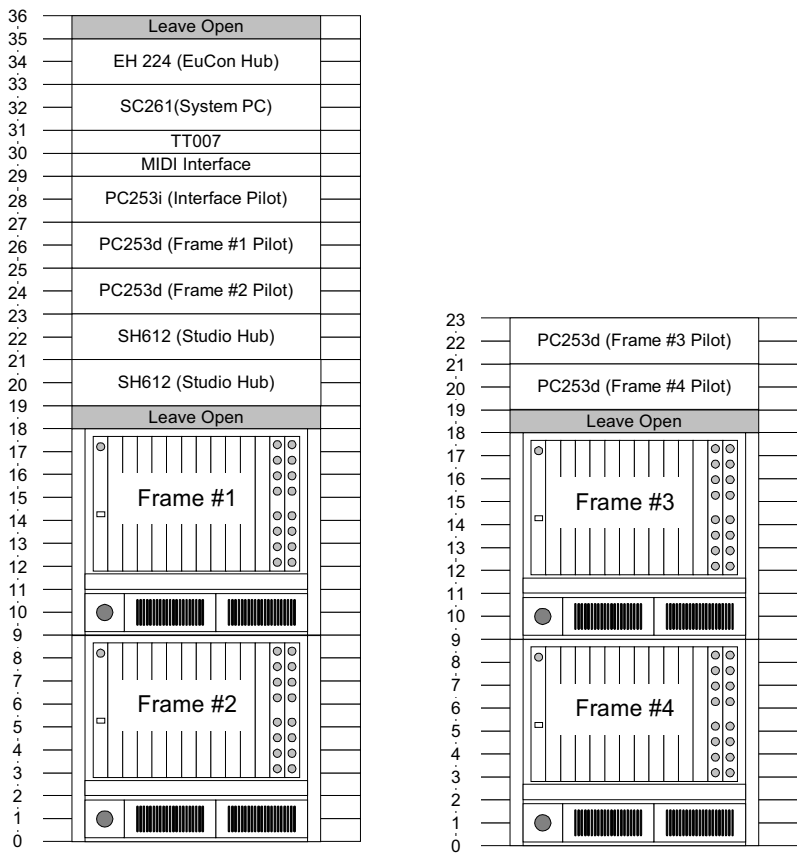
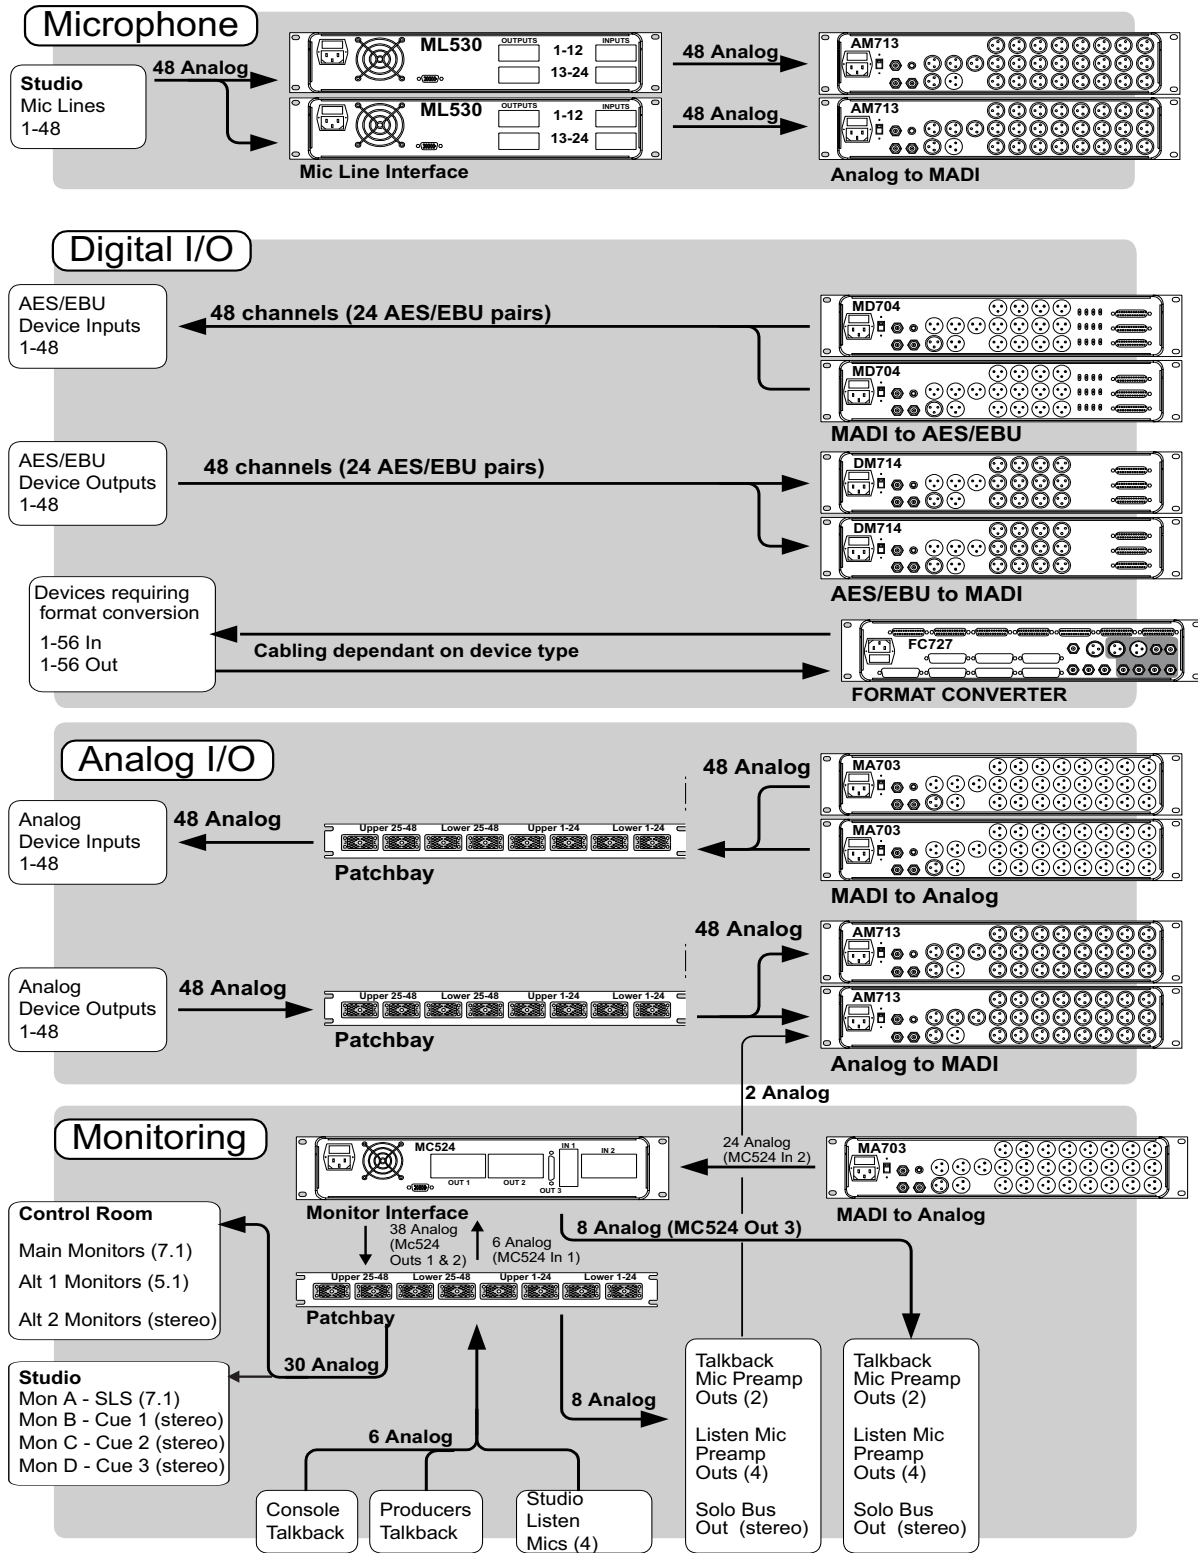

Figure 2-8 Four-frame System
Figure 2-9 Audio Hookup
MADI In (4) and **MADI Out** (4) (8 BNC): Digital audio in and outs. See the MADi Hookup diagrams (Figure 2-9 and Figure 2-8) for details on these connections.